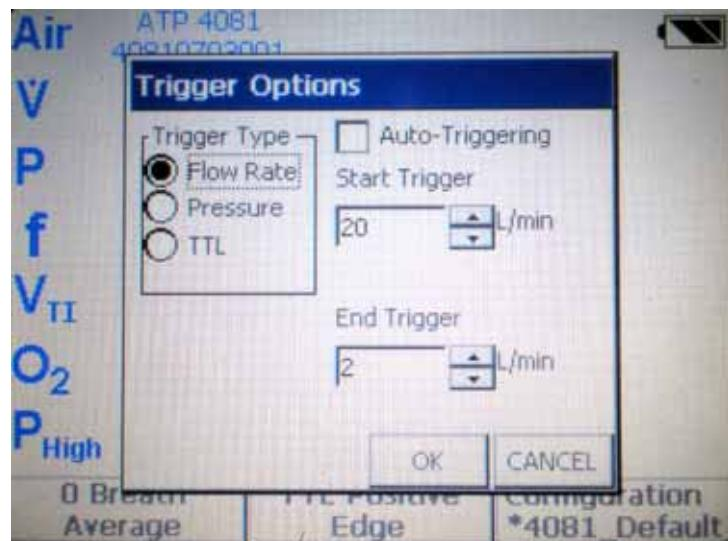

Figure 8-6: Trigger Options Screen
2. Select Flow Rate (refer to Figure 8-6) and verify Auto-Triggering is *not* checked.
3. Use the up or down direction arrows to select 20 L/min for Start Trigger and 2 L/min for End Trigger (refer to Figure 8-6).
4. When the appropriate parameters are selected, touch **OK** (refer to Figure 8-6).